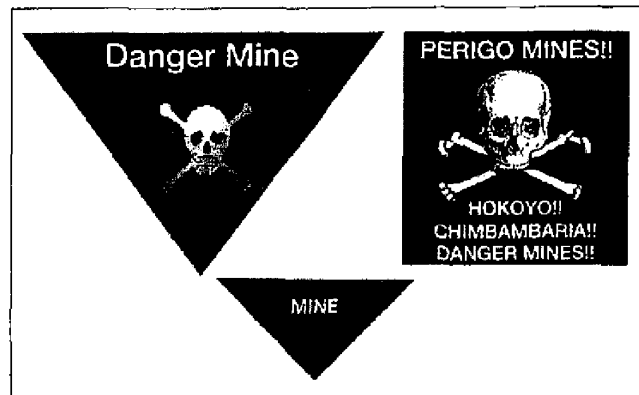

Figure 052-192-1242-2. Samples of Mine Signs
(6) Pieces of both cloth and metal material attached to poles, sticks, or walls.
(7) Burned fields normally indicate UN mine clearance operations.
(8) Red lettering and marks painted on rock faces or building walls. For example, start point (SP), indicating minefield start point. UN demining reference markers, such as reference point (RP) and benchmark (BM). Minefields will be close to these markers.
c. Man-made markings of mines, booby traps, IEDs, and UXOs (Figure 052-192-1242-2).